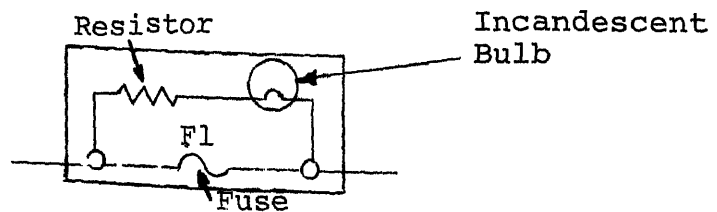

FIGURE 3 - DC INDICATING FUSEHOLDER
14. The schematic symbol for the dc indicating fuseholder is shown in figure 3 below.